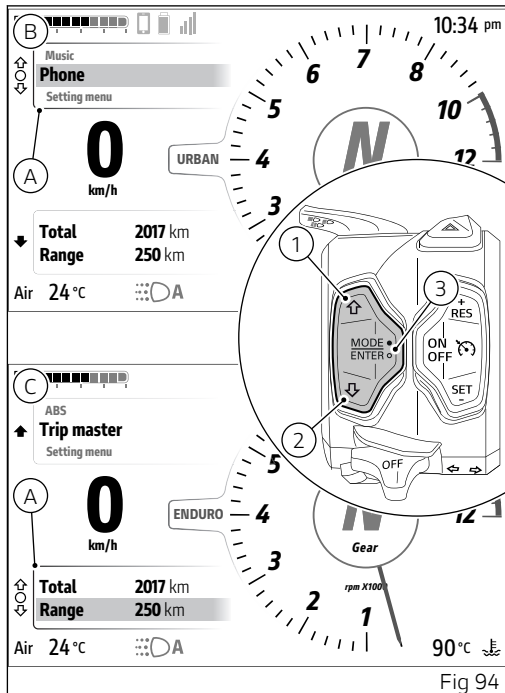

Fig 94
- if "Interactive menu" is currently selected, long press and hold button (2, Fig 94) to move the selection to Info display (C, Fig 94);
- if "Info display" is currently selected, long press and hold button (1, Fig 94) to move the selection to "Interactive menu" (B, Fig 94).